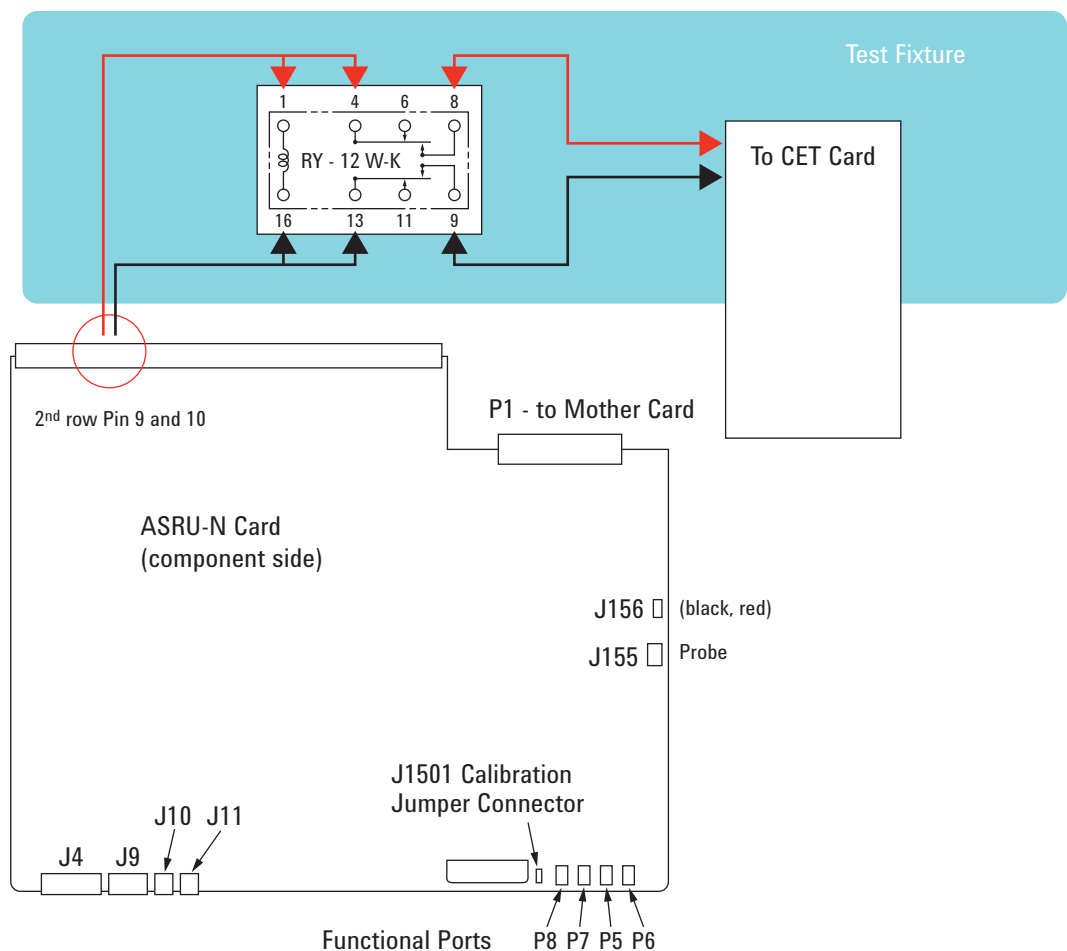

Figure 6. Fixture power supply isolation from system ground
Figure 6 shows the connection for a 12 V relay. The output from the FPS is wired to both the COM and the coil pins of the relay. From the relay, the Normal Open (NO) pins are wired to the CET card. When power is turned on, the 12 V will energize the coil, which in turn will close the relay contact to establish the power to the CET card.